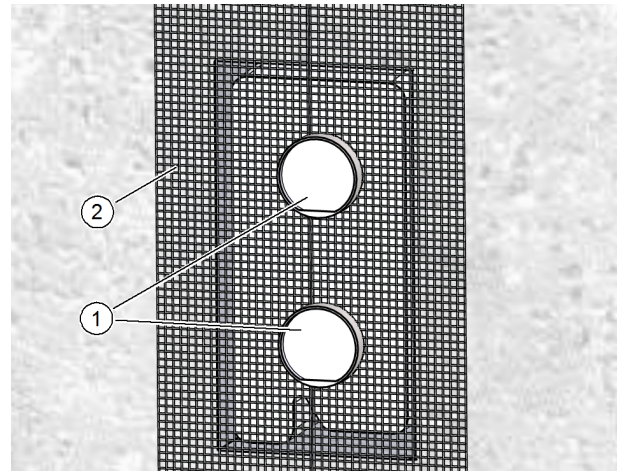
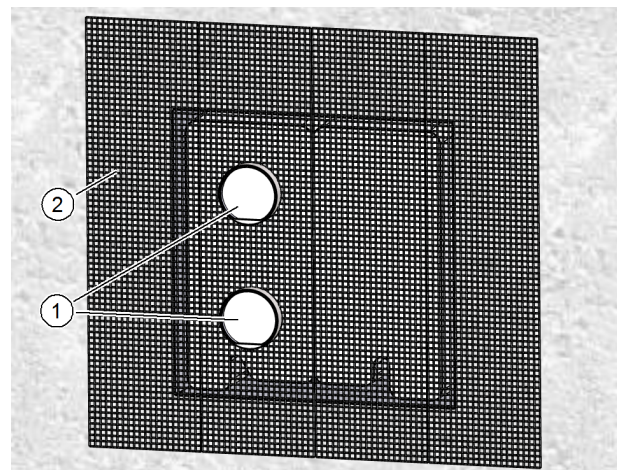

Fig. 22: Plastering the wall box **without** filler piece
Fig. 23: Plastering the wall box **with** filler piece
- ▶ Insert the protective sleeves (item 1 in Fig. 22 and Fig. 23). They should extend beyond the solid wall so that they will end flush with the subsequent plaster coat. The protective sleeves provide the bonding surface for the external plaster.
- ▶ Apply the plaster scrim (item 2 in Fig. 22 and Fig. 23) to the outside of the wall box, to the masonry and to the facade insulation.